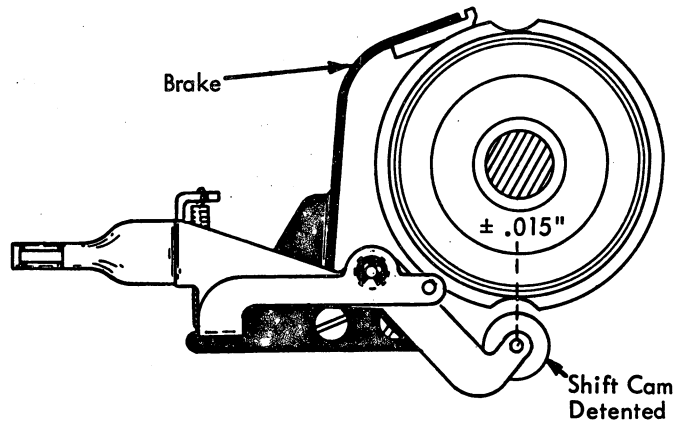

FIGURE 69. Shift Cam Brake Adjustment
4. **Shift Cam Brake (Fig. 69)** - The shift cam brake shall be so adjusted, that the shift cam will stop in the center of the detent position $\pm .015"$, when the detent roller is held away from the cam during the shift from upper case to lower case.